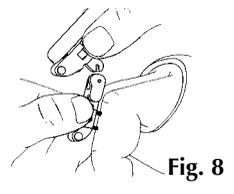

Fig. 8
3. While supporting the Pin Block, snap the Connector Assembly onto the Pivot (Fig. 8).